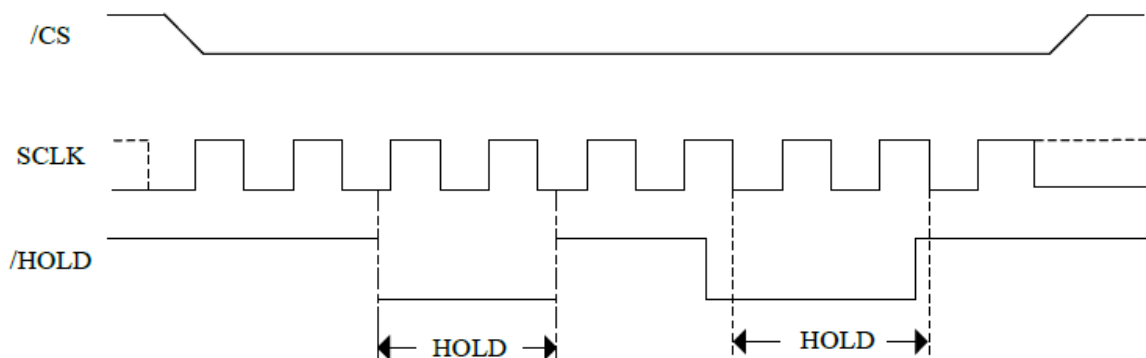

Figure1. Hold condition activation
The Hold condition starts when the Hold (/HOLD) signal is driven Low at the same time as Serial Clock (SCLK) already being Low (as shown in Figure 1).
The Hold condition ends when the Hold (HOLD) signal is driven High at the same time as Serial Clock (C) already being Low. Figure 1 also shows what happens if the rising and falling edges are not timed to coincide with Serial Clock (SCLK) being Low.